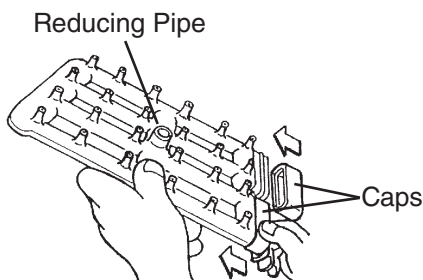

**Fig. 37**
- 7) Disconnect the discharge tube from the spray assembly, then slide out the spray assembly. See Fig. 37.